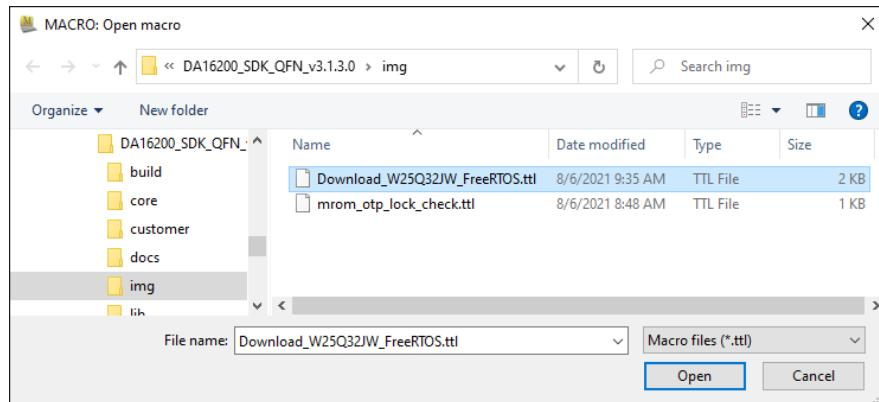

Figure 5. Open macro file
2. When the **MACRO: Open Macro** file selection window opens, navigate to the directory where the firmware images are stored and select the **.ttl** file as shown in Figure 5.